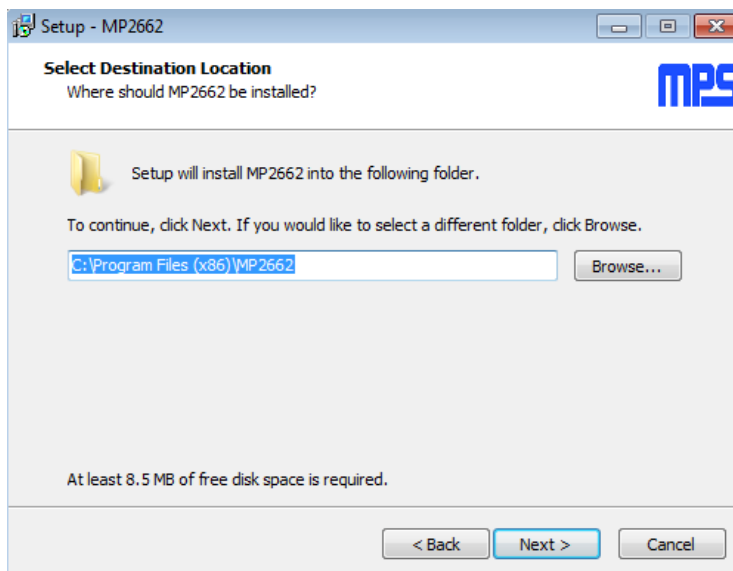

Figure 4: MPS I²C GUI Set-Up Guide
2. Double click the .exe file to open the set-up guide (see Figure 4). If a protection window comes up, click “More info,” then click “Run anyway.”